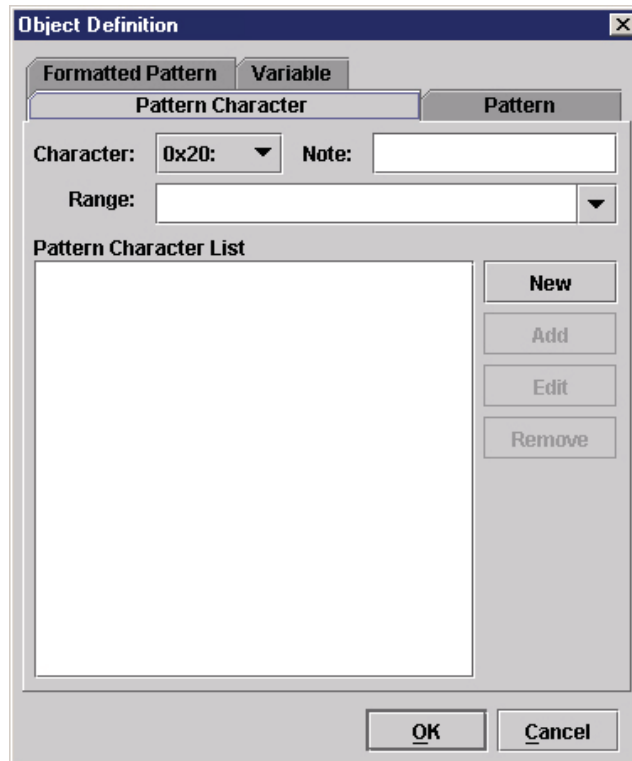

Figure 155 Object Definition: Pattern Character
1. In the CST Manager, click **Patterns / Variables**. See Figure 155.